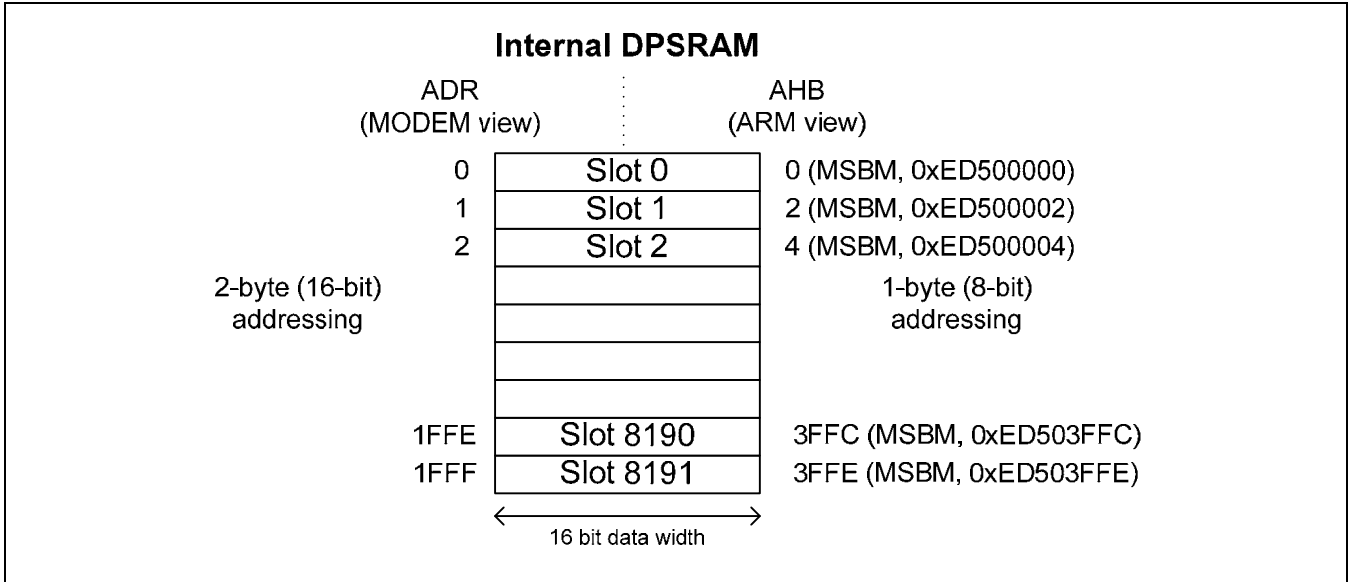

Figure 8.11-2 MODEM I/F Address Mapping
1. There are two address views for MODEMIF, one is MSM address (ADR) for MODEM chip, and the other one is AHB address for S5PC100. AHB address is twice of ADR. For example, 0x3FFC at AHB bus is 0x1FFE at ADR. Figure 8.11-2 helps you to understand it.